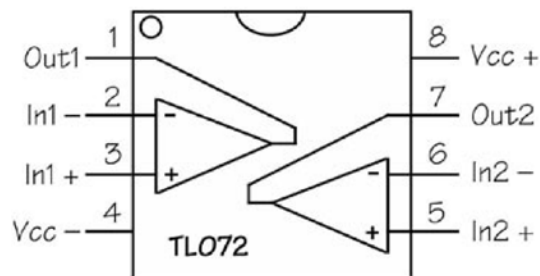

Figure 7 — Pin-Out for the TL072 Op-Amp
The op-amp that will be used in this course is the TL072, which is an integrated circuit (IC) that comes in an 8-pin *dual in-line package* (DIP). The *pin-out* is interpreted by looking down on the chip with the notch or dot (sometimes both) at the top as shown in Figure 7.